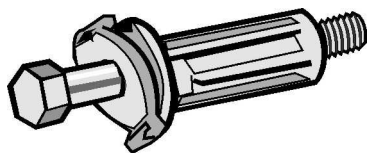

Figure 2
- ❑ Locate the four transportation bolt assemblies originally shipped with your washer (see Figure 2).